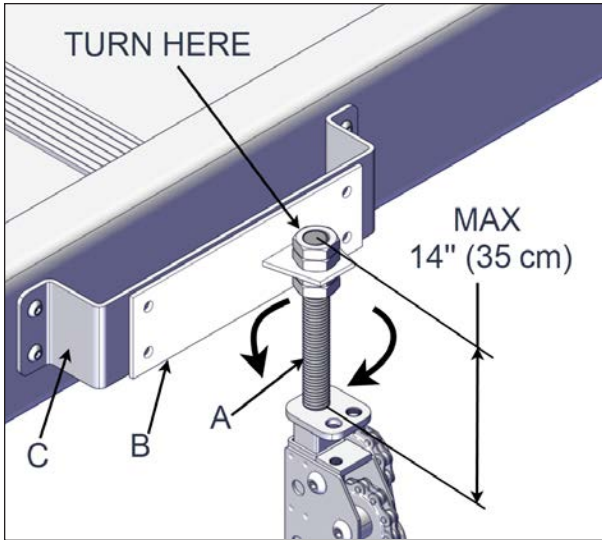

FIGURE 73: THREADED ROD ADJUSTMENT
14. The jack adapter located at the top of the jack can be adjusted by turning the threaded rod on the top of the jack. Use an adjustable wrench to adjust the height so that they match the cover mount bracket holes. Repeat this step for all four jacks (Figure 73).
The threaded rod must not be unscrewed more than 14 inches (35 cm). Measure the length from the top of the threaded rod nut to the top of the bottom nut, see Figure 73.